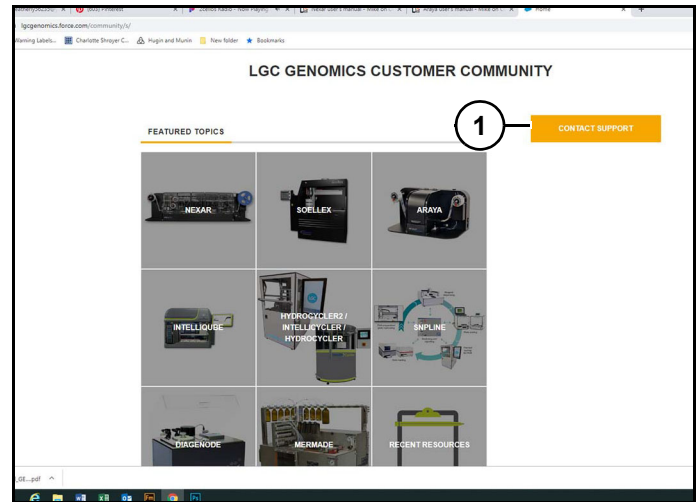

Figure 11
6. Click "Customer Support" (1)(Figure 11).